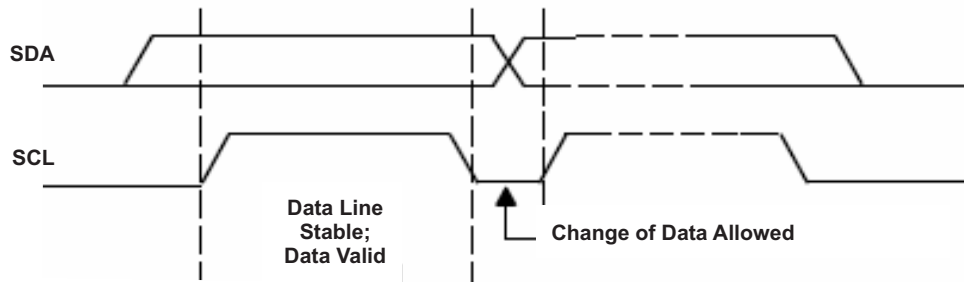
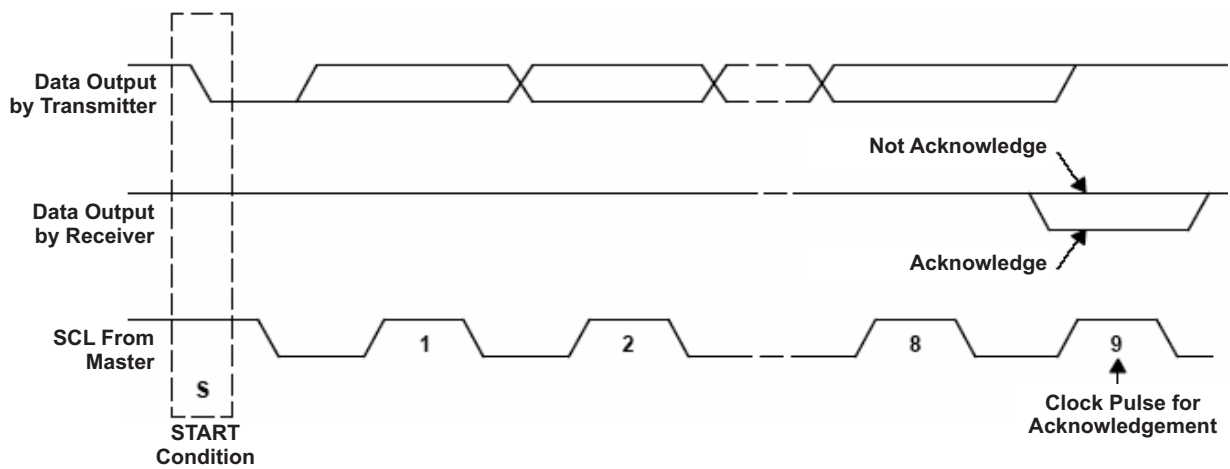

Figure 26. I²C Bit Transfer
Figure 27. I²C Acknowledge
- The *master* initiates data transfer by generating a *start condition*. The *start condition* is when a high-to-low transition occurs on the SDA line while SCL is high, as shown in Figure 27. All I²C-compatible devices should recognize a *start condition*.
- The master then generates the SCL pulses and transmits the 7-bit address and the *read/write direction bit* R/W on the SDA line. During all transmissions, the master ensures that data is *valid*. A *valid data condition* requires the SDA line to be stable during the entire high period of the clock pulse (see Figure 26). All devices recognize the address sent by the master and compare it to their internal fixed addresses. Only the slave device with a matching address generates an *acknowledge* (see Figure 27) by pulling the SDA line low during the entire high period of the ninth SCL cycle. On detecting this acknowledge, the master knows that a communication link with a slave has been established.